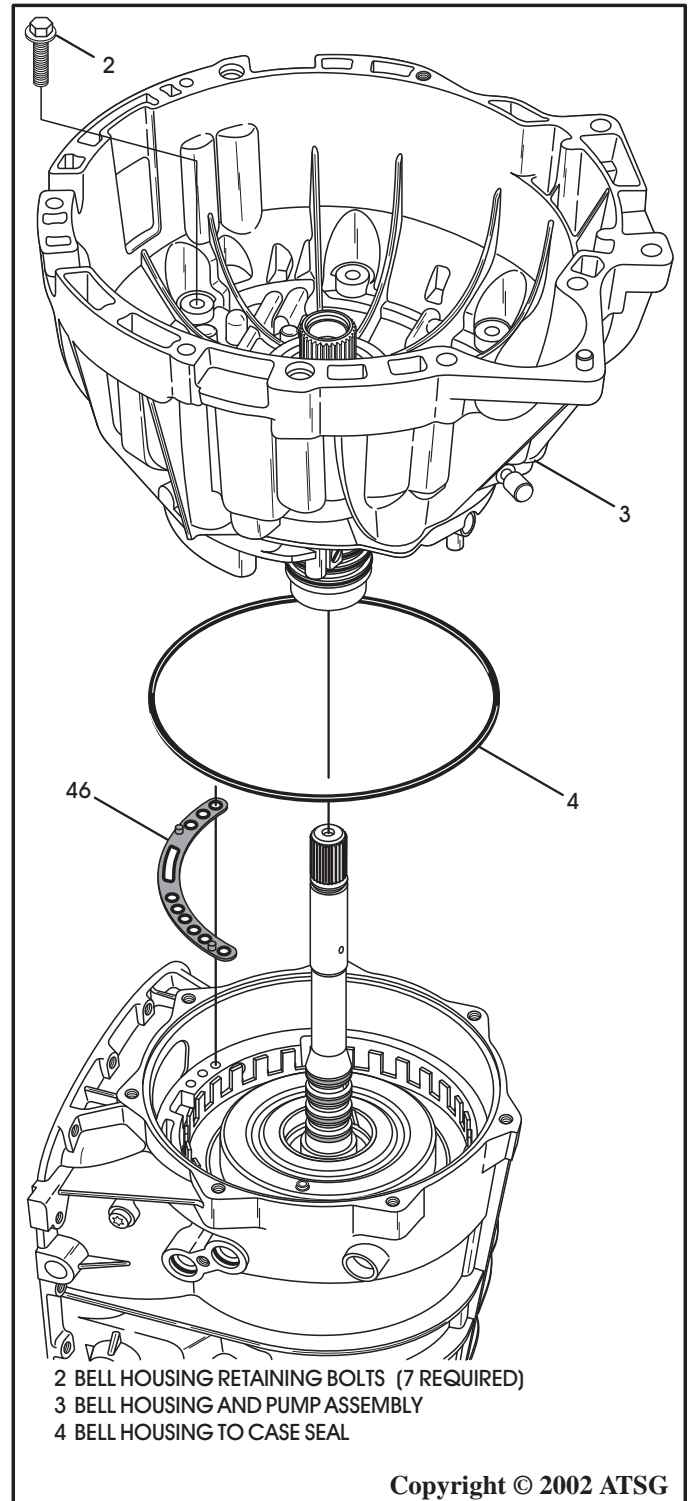

Figure 44
33. Remove the 7 bell housing to case retaining bolts, as shown in Figure 44.
34. Remove bell housing and oil pump assembly, as shown in Figure 44 and set aside for the component rebuild process.
35. Remove and discard the bell housing to case seal and the pump cover to case gasket, as shown in Figure 44.